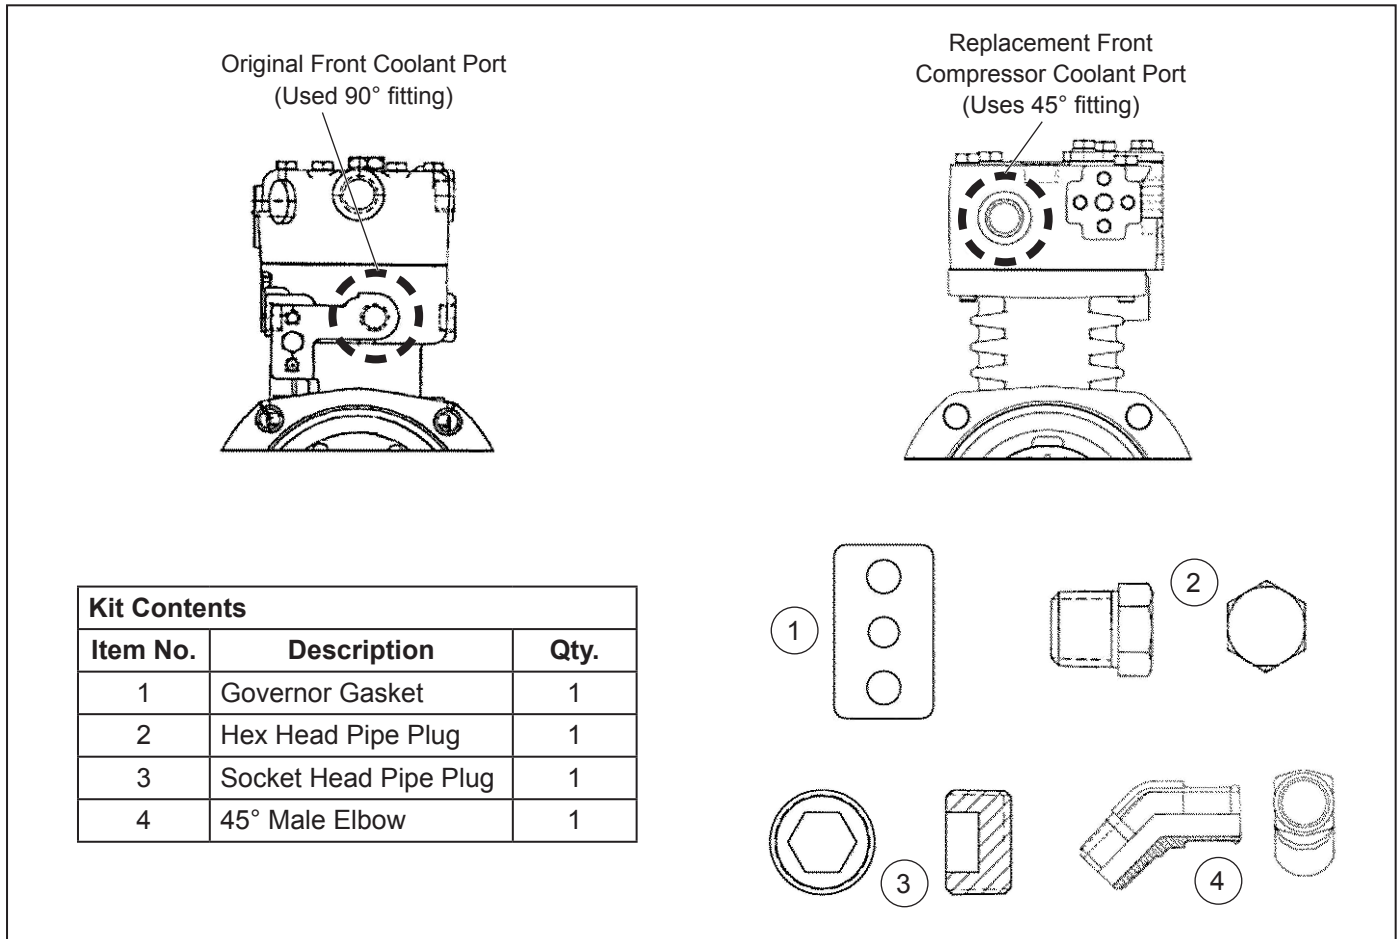

Figure 1 – Coolant Port Original and New Locations
5. Remove and retain all the current fittings used on the compressor, except the 90° coolant fitting in the cylinder head. (See Figure 1.)